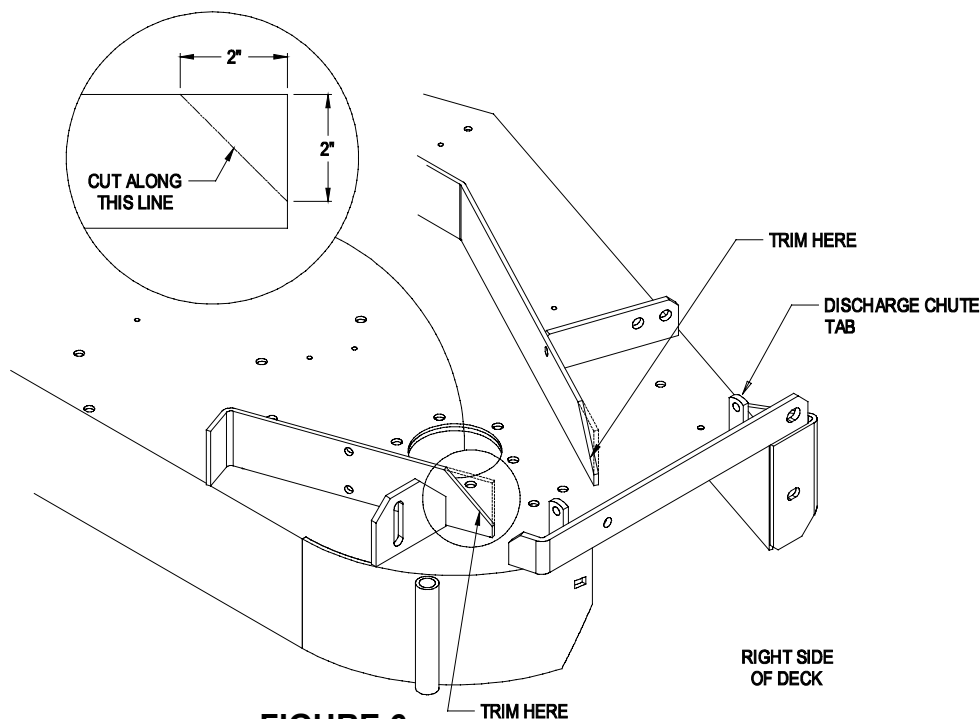

FIGURE 6
2. ***If you are mounting the Ultra Vac on a Lazer HP with serial number 220,000 or higher, skip to step 3.*** For Lazer HPs with serial numbers 220,000 and lower, locate and cut off the corners of the right deck reinforcement plates by measuring 2" down from the top and 2" from the outside as shown in Figure 6. (This step provides the required belt clearance.)